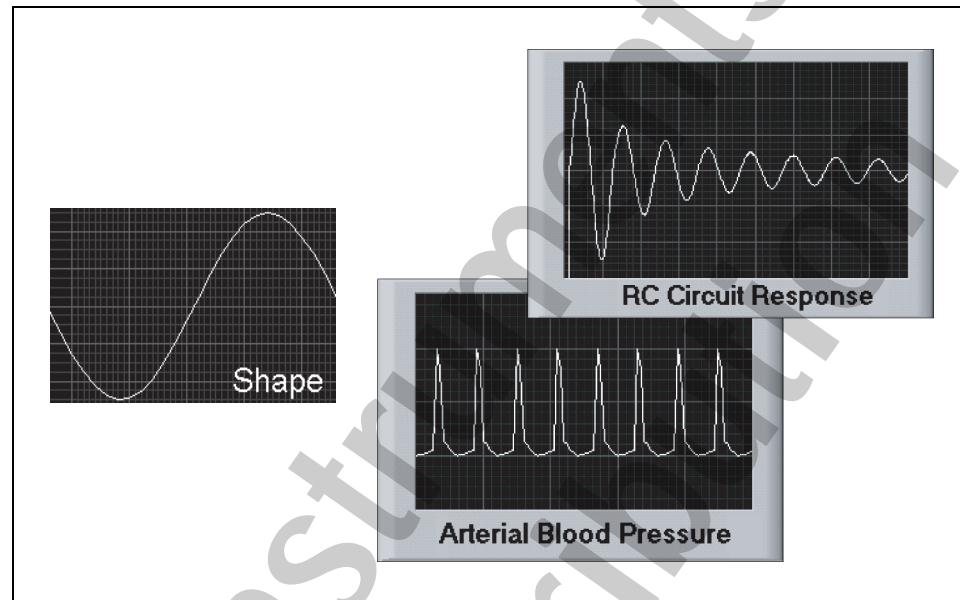

Figure 1-5. Shape Examples
For example, when you measure blood pressure, you are concerned with the peak value. However, with resistor-capacitor (RC) circuit response, you are more concerned with how the amplitude varies over time, as shown in Figure 1-5.